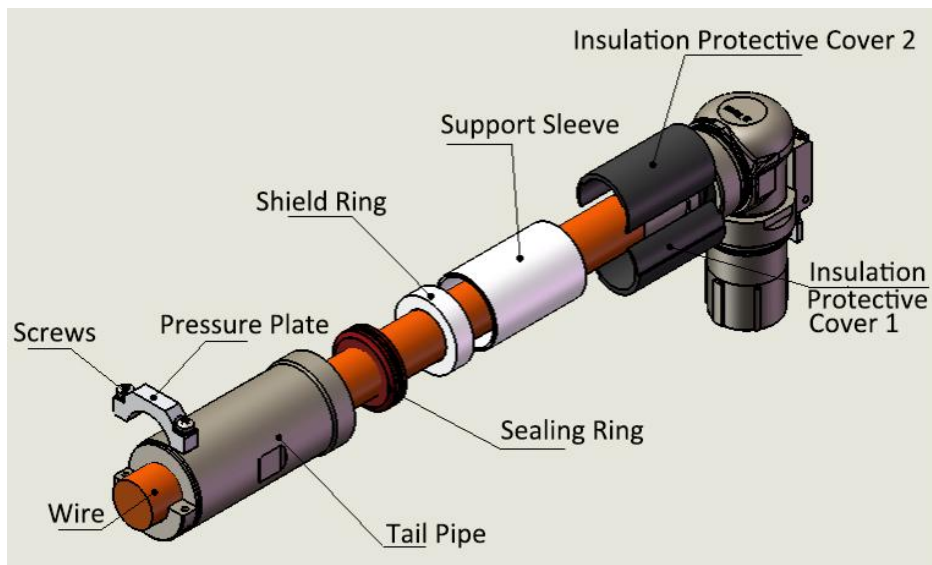

Figure 12
3.2.1. Remove the connector, the parts in the product set on the cable, and then set on the double wall heat shrinkable tube ($30 \pm 2\text{mm}$ long) see figure 12.